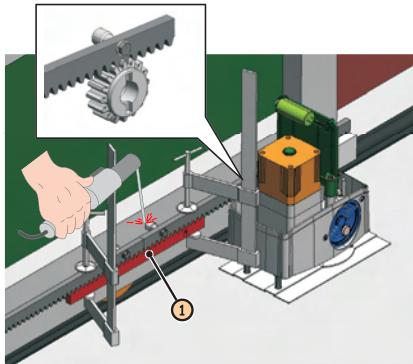

Fig. 14
- Fit another rack element next to the previous one, using a piece of rack, as shown in Fig. 14 ref. ①, to synchronise the teeth of the two elements.
- Manually move the gate, checking if the rack is resting on the pinion and repeat the operations in point ③.